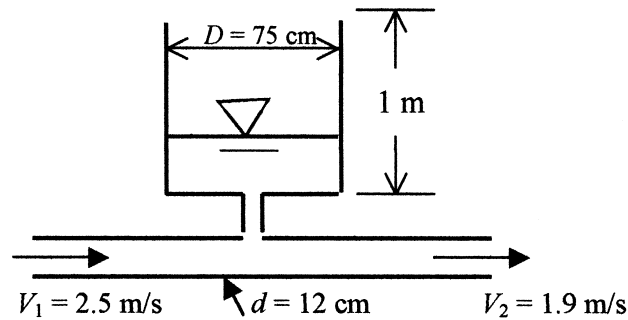

Fig. P3.12
**3.12** The pipe flow in Fig. P3.12 fills a cylindrical tank as shown. At time  $t = 0$ , the water depth in the tank is 30 cm. Estimate the time required to fill the remainder of the tank.